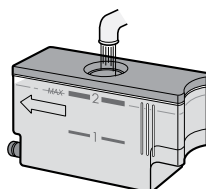

Figure 2
3. Fill the water tank with room temperature water suitable for drinking (labeled) through the lid to the 2 mark (MAX mark) each time you begin to cook. (Figure 2) Do not fill the water tank over the 2 mark (MAX mark).